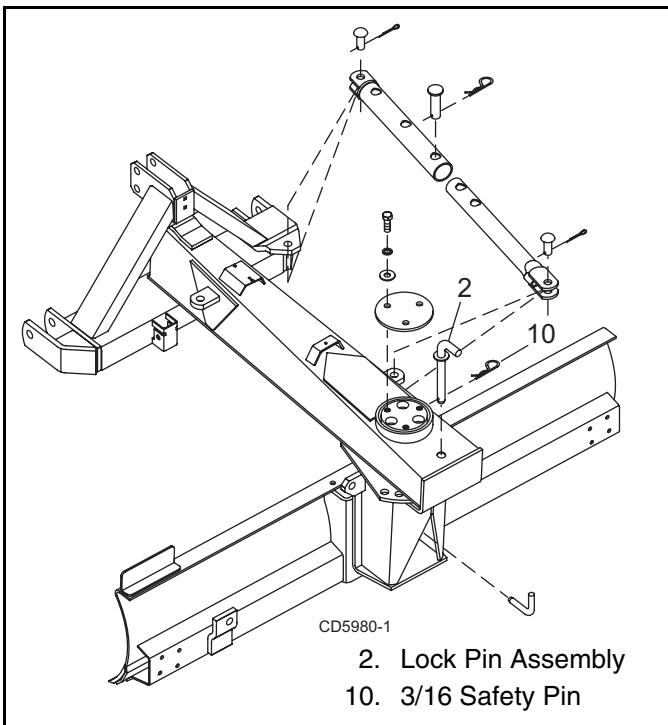

Figure 2. Mechanical Configuration Assembly
2. **Mechanical** – Remove the lock pin (2), Figure 2, and rotate it counter-clockwise to the desired position and replace pins.